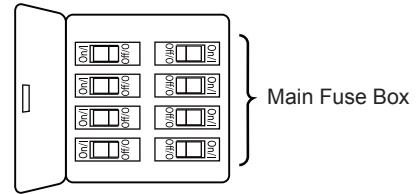

Figure 1
1. Remove one of the three screws in the support bracket at the bottom of the motor assembly. Retain the screw for later and slightly loosen the remaining two screws. (Figure 1)
To avoid possible fire or shock, be sure electricity is turned off at the main fuse box before hanging. (Figure 1)
- 1. To set the code on receiver unit, slide dip switches to the same positions as set on the remote. (Figure 1)